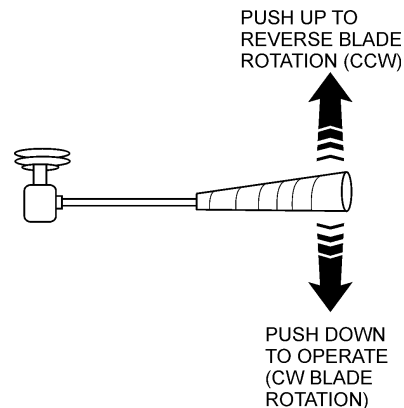
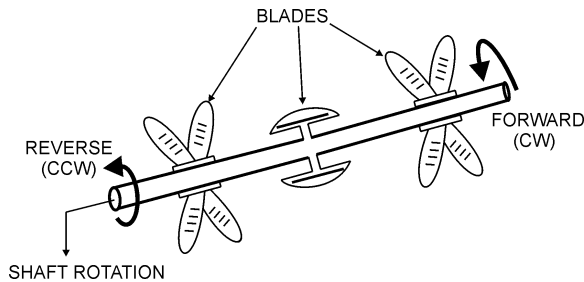

Figure 32. Hopper Remixer Control Lever
Figure 33. Hopper Remixer Blades (Rotation)
- Located to the left of the Hydraulic Temperature gauge is the Hopper Remixer Control lever (Figure 32).
- C. Push the Hopper Remixer Control lever **“DOWNWARD”** (Figure 32) and observe that the blades (Figure 33) inside the hopper are turning in a clockwise direction (forward).
- D. Push the Hopper Remixer Control lever **“UPWARD”** (Figure 32) and observe that the blades (Figure 33) inside the hopper are turning in a counter-clockwise direction (reverse).